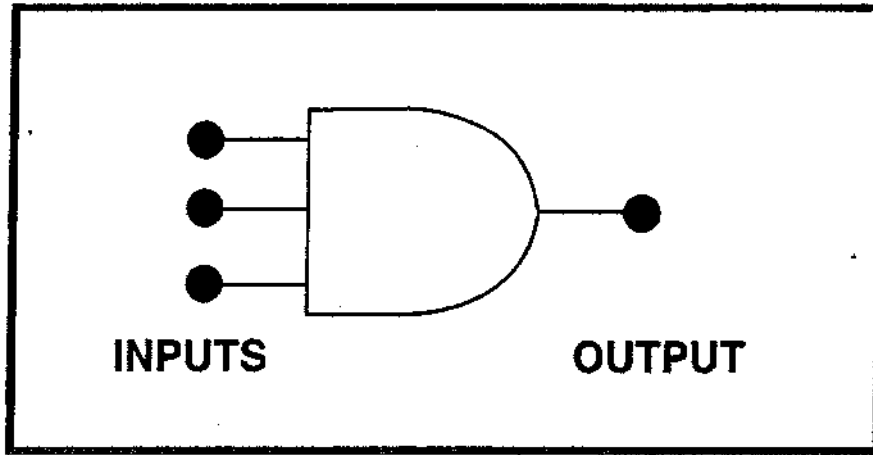

Fig. 9.16. Logic Gate.
88. (Refer to figure 9.16) In a functional and operating circuit, the depicted logic gate's output will be 0